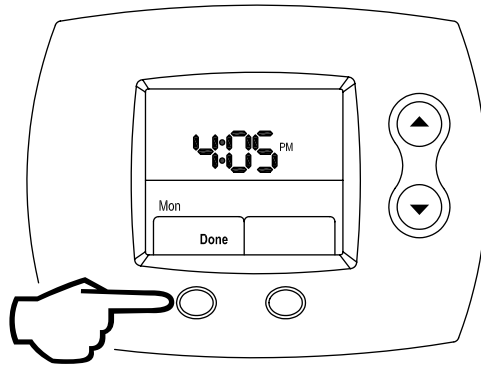

Figure 47
Step 10: Press the **LEFT** (Done) button, as shown in Figure 47. This completes the Setback Control Start-up Procedure. You will now be taken to the HOME screen.